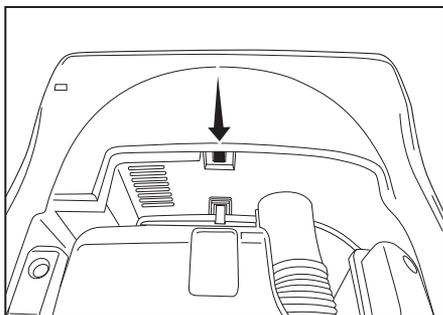

Fig. 1
- Locate the Breaker Reset Button under the top of the nozzle (Fig. 1).